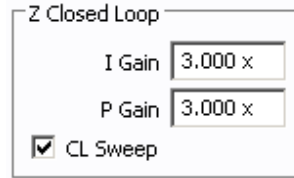

Figure 116 Z closed loop section of Spectroscopy Setup tab with **CL Sweep** check box selected
- 11 If using a calibrated CL scanner, select the **CL Sweep** check box (as shown in **Figure 116**) in the Z Closed Loop section of the Setup tab.